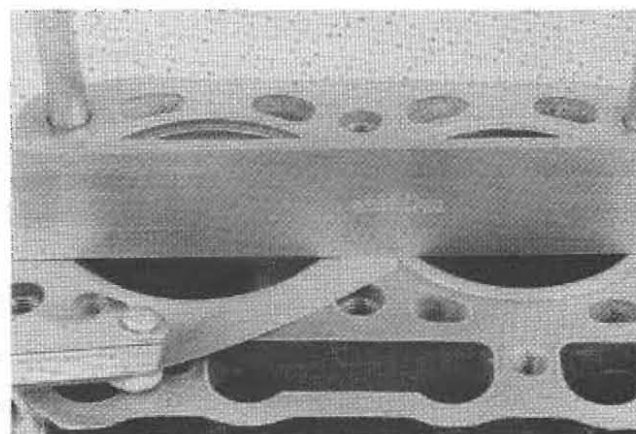

Fig. 3-3 Measuring Sleeve Projection
5. Check the projection of the cylinder liner above the block head (Fig. 3-3). If the top edge of the cylinder liner is below deck, the liner will not seal properly to the cylinder head. Excessive projection will increase the top clearance and damage the gasket. Cylinder liner projection should be flush to .0030 in. (flush to 0.075 mm). If the cylinder liner projection is below deck or excessive, try another liner or file it down.